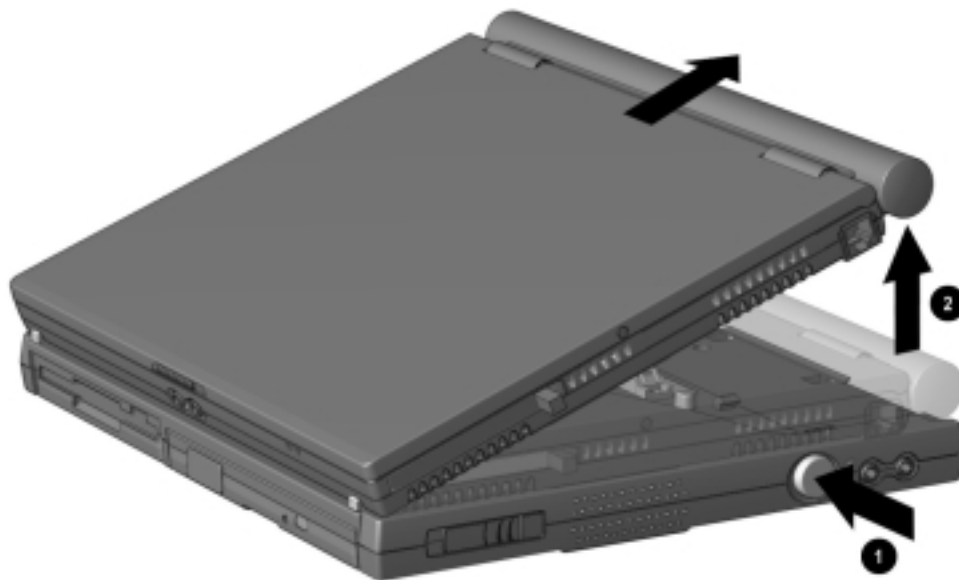

Figure 5-3. Disconnecting the Computer from the Mobile Expansion Unit
4. On the mobile expansion unit, press the docking release button **1** to release the expansion unit from the computer (Figure 5-3).